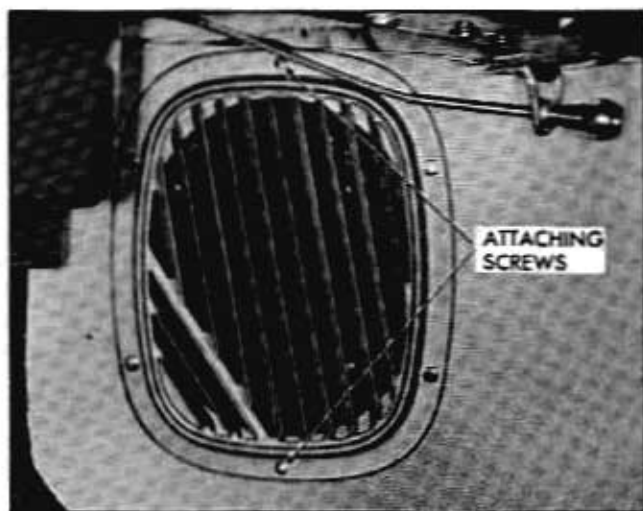

Fig. 1-13 Air Inlet Grille
1. Remove screws indicated in Fig. 1-13 securing upper and lower end of air inlet grille.